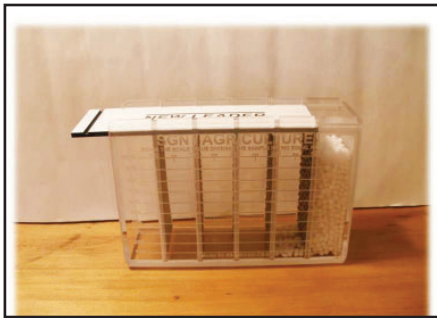

Figure 4
1. Figure 4 - To determine SGN, place scale on flat surface and open lid.